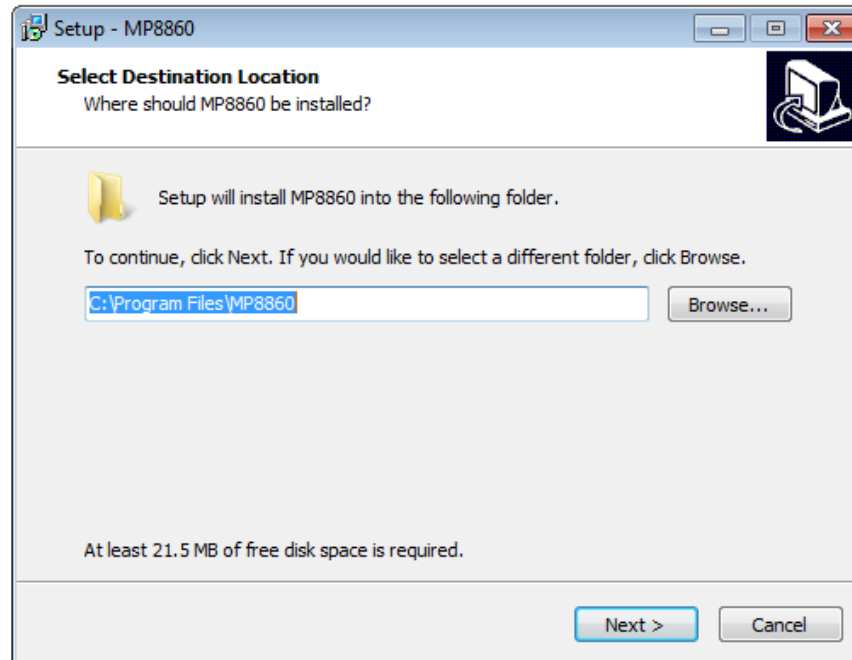

Figure 4: MPS I2C GUI Set-Up Guide
1. Double click the .exe file to open the set-up guide (see Figure 4).